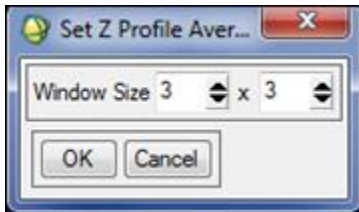
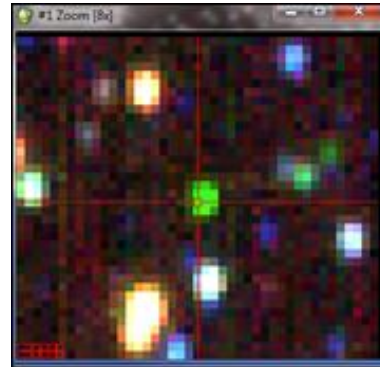

Figure 2.8d. Z profile average
Figure 2.8e. Zoom window with 3x3 Z profile average
- Select Z profile average window (Figure 2.8d). When you change the Z Profile Average larger than 1 x 1 the pixel in the zoom window is the bottom right pixel of the area (Figure 2.8e).